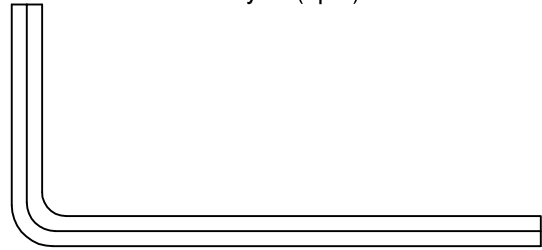

FIG.8
Place the vertical panel into its appropriate position on the Fixed shelf as shown in figure 8. Insert the 2 Allen bolts (M) and 2 spring washers (T) first through the threaded inserts in the stationary shelf, then through the vertical panel as shown in figure 9. Tighten with Allen Key #4 (U).